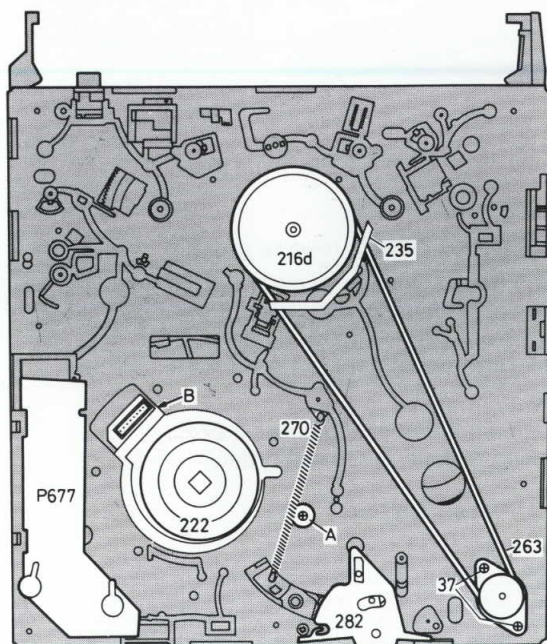

Fig. 3-1-7
- From the lower side through chassis plate and threading-in ring (Fig. 3-1-7) screw 27 can be removed and the head replaced.
- The 2 screws 37 can be turned out of the top plate via the holes in the chassis (Fig. 3-1-7).